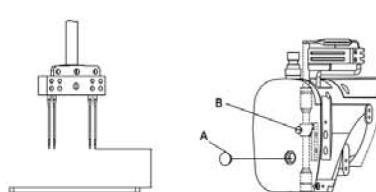

图13(Fig. 13)
1. 当针杆上升至最高点时， 调整针尖与针板面的距离为  $10\pm0.5\text{mm}$ 。(图13)
1.Needle tip should be  $10\pm0.5\text{mm}$  height from Needle plate when Needle Bar moves to its top position. (Fig.13)